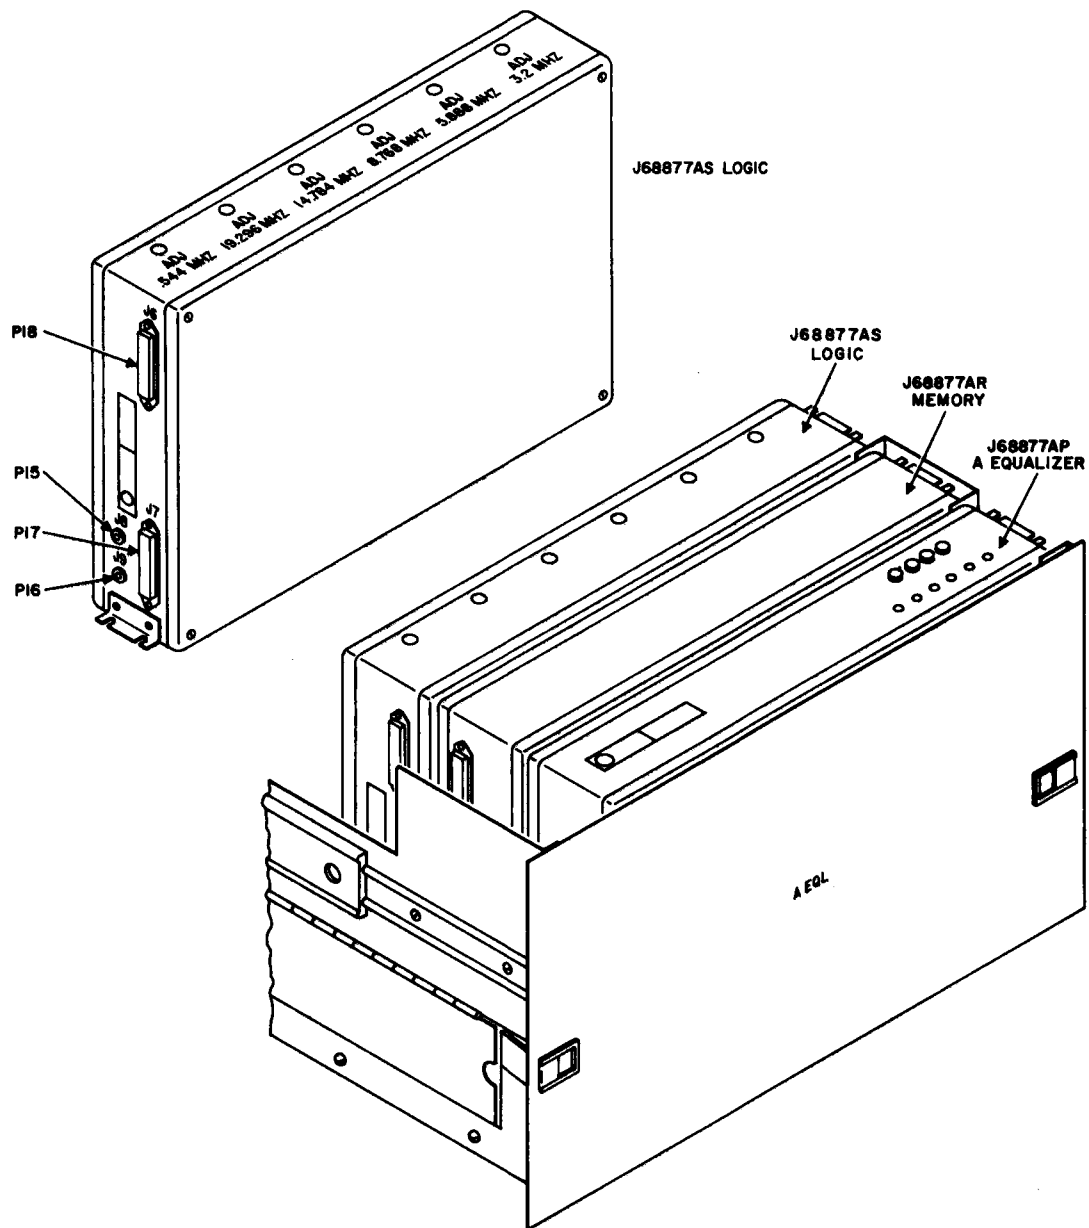

Fig. 10—A Equalizer Test Oscillator and Logic J68877AS
C. Logic and Test Oscillators J68877AS (Fig. 10)
Note: Access to jacks J7, J8, and J9 is via a piano-hinged flap on the left side of the A equalizer shelf (Fig. 10).